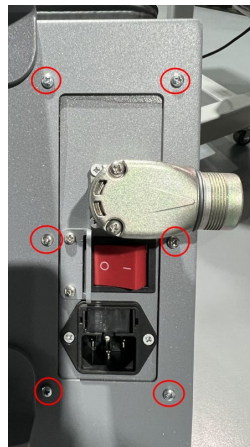

Figure 3-25 Screw position, power ground connection location and sheet metal module placement
- Remove the screws on the connector mounting plate, disconnect the ground from the box to power socket and the equipment connector. Take the sheet metal module out from the box and place it on the box bracket as shown in Figure 3-25.